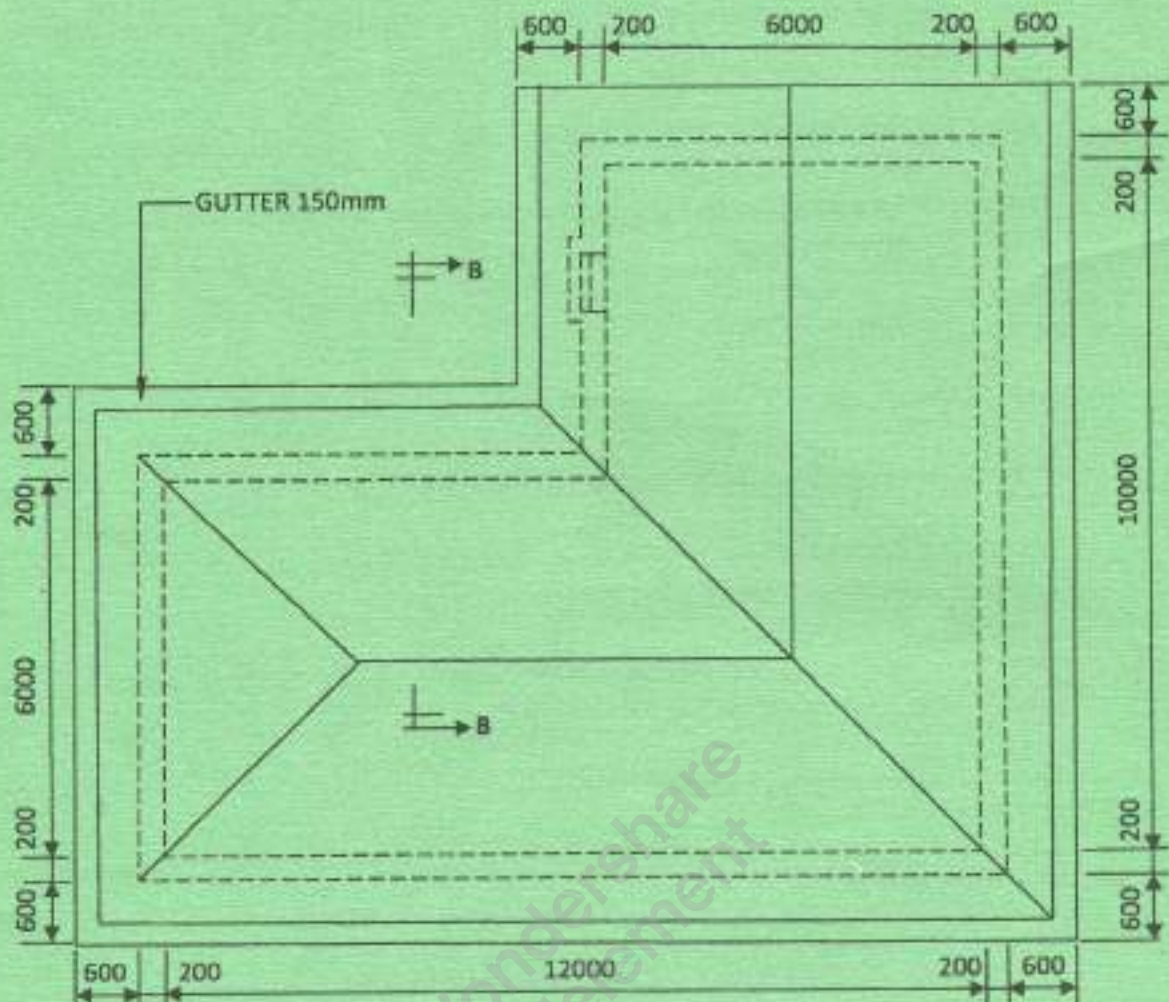

Fig. 1
6. To a scale of 1:50, draw section B - B through the maisonette whose roof plan is shown on **Figure 1** given the specifications: (30 marks)